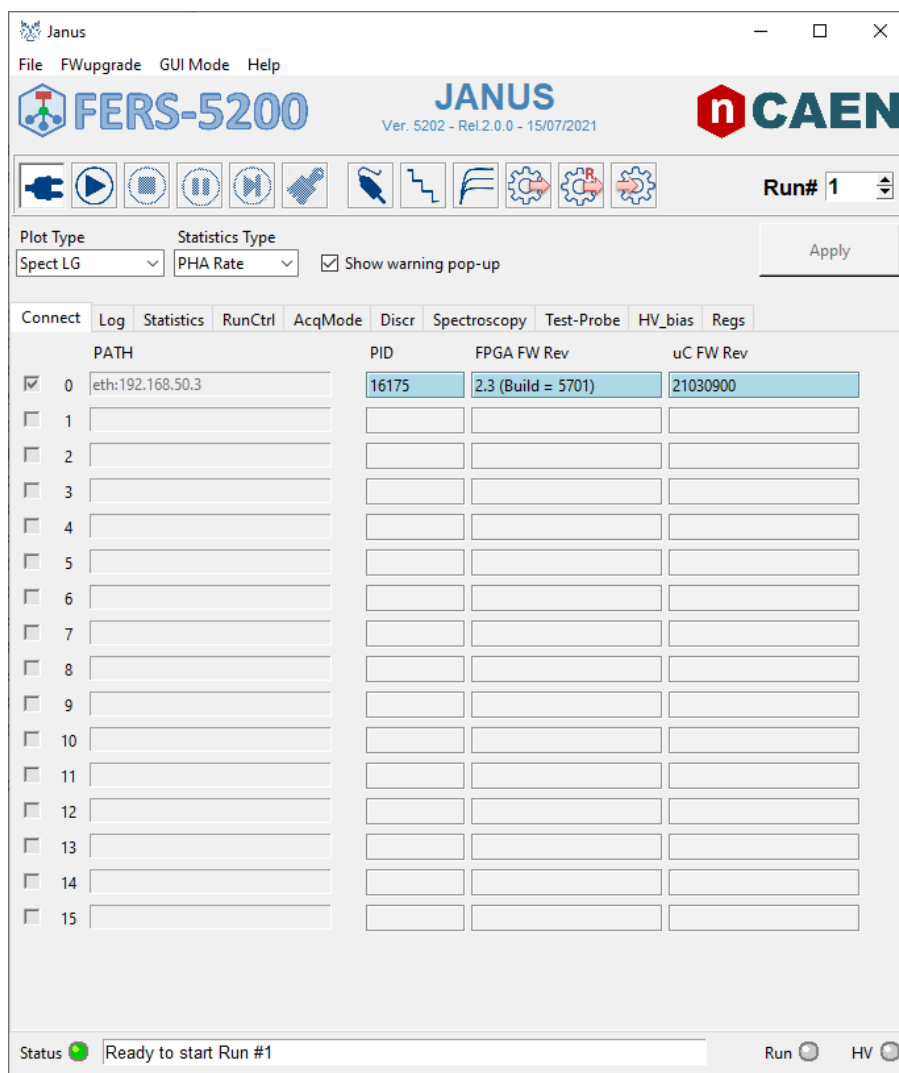

Fig. 11.5: A5202 board connected with the new version of FPGA firmware loaded.
6. Once the operation is finished, the new FPGA firmware is loaded (the board connection with the Janus software is kept). The user can check that the new FPGA firmware version has been correctly loaded by looking at the PATH field in the Connect Tab of the Janus GUI (see Fig. 11.5).